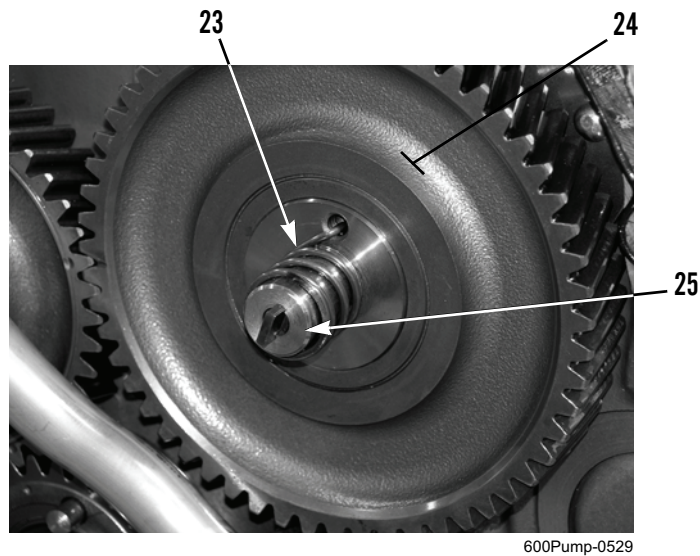

Figure 5. Spring on Camshaft Gear and Camshaft.
9. Retrieve compression spring (Figure 5, Item 23) from camshaft gear (Figure 5, Item 24) and camshaft (Figure 5, Item 25).